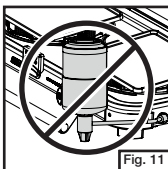

Fig. 11
- Never operate stove with propane cylinder in an inverted position. (Fig. 11)